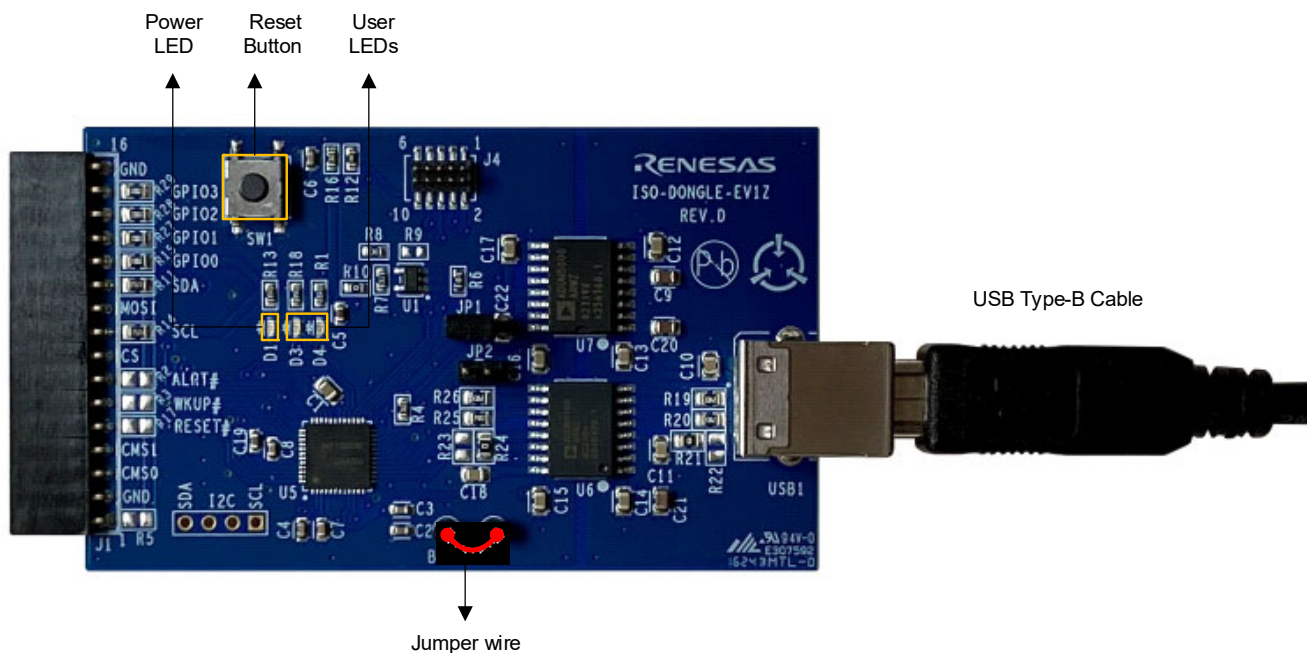

Figure 10. Connection of the ISO-DONGLE-EV1Z Rev.D Isolated Communications Dongle for the Software Image Update
1. Connect the BOOT Test Point to the TP1 (GND ISO) using a jumper wire as shown in Figure 10.